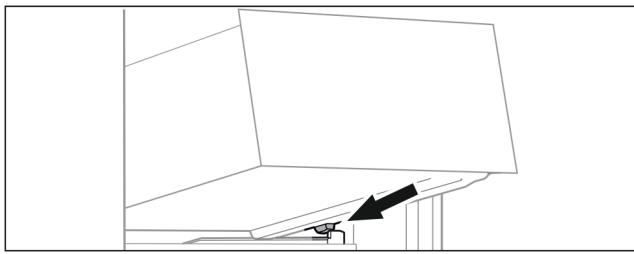

Fig. 97
- ▶ Place drawer at an angle behind the stoppers on the moulded rib. (see Fig. 97)